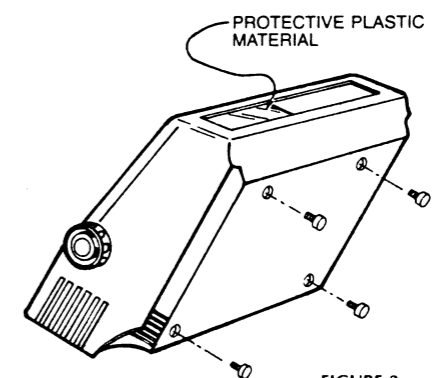

FIGURE 2
- Unscrew (counterclockwise) and remove four screws and spacers (see Figure 2).
- Lower the printer to rest it on its base. Remove the pressure sensitive tape restraining the top cover, the hammer cover, pressure shaft, and the pressure lever. If protective plastic material is adhered to the operator control panel DIP switches, remove it (Figure 2).